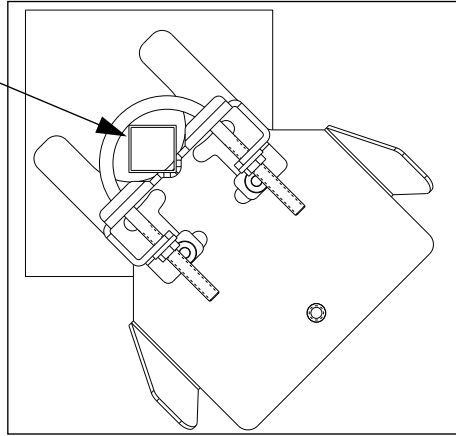

Figure 4.1
2. Mount the four support brackets under the enclosure by placing one on each pedestal mount bracket by attaching the U-bolt and nut around the pedestal (See Figure 2.1). Refer to Figures 4.1 through 4.3 for adjustment to various pedestal sizes. Use the magnetic ruler to measure the correct mounting location for each support bracket. Point them towards the center making a cross from the corners (See Figure 2.2). Ensure that the plate is allowed to pivot from side-to-side. **Note:** If Grid Runner is placed above pedestal plate, then the mounting assembly must be removed from plate and reconnected with the mounting assembly under the pedestal plate (See Figure 2.3).